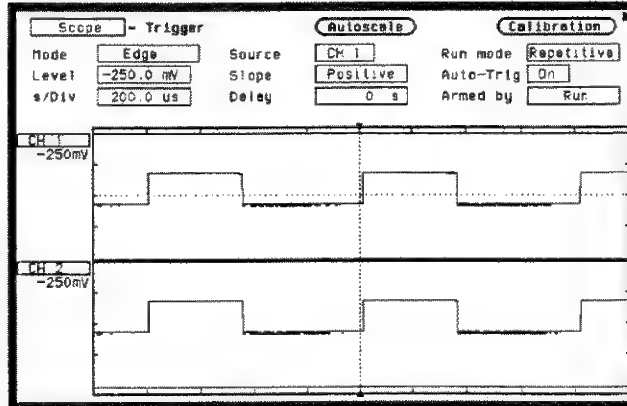

Figure 25-4. Autoscaled Waveform
6. Select the Waveforms menu and toggle Connect dots field to on. The displayed waveform should now look like figure 25-4.